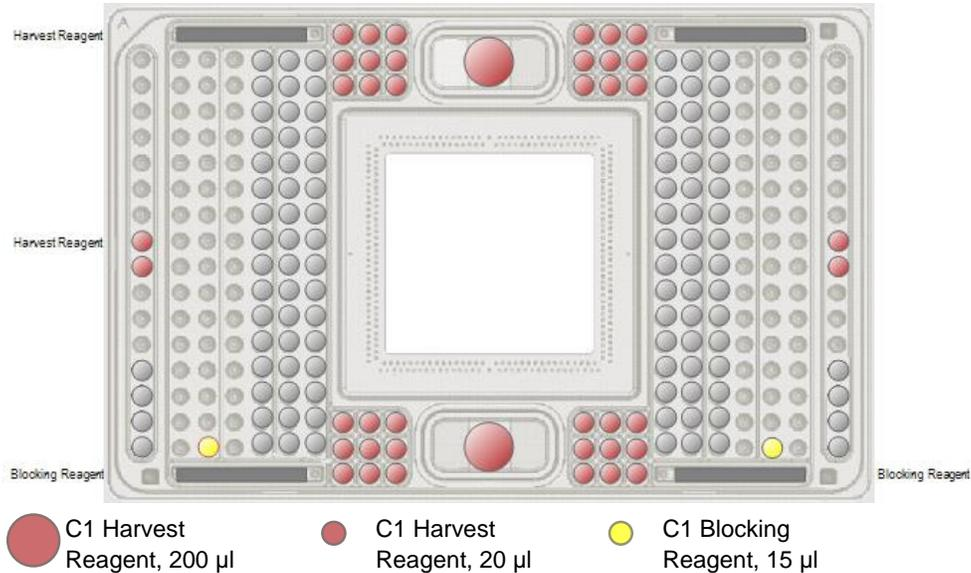

Figure 2. C1 IFC Priming pipetting map.
1. Pipet 200  $\mu$ l of C1 Harvest Reagent into each of the accumulators marked with a large red circle in Figure 2 (2 total). Push down the O-ring with the pipette tip to inject the reagent into each inlet. After injection, swirl the IFC gently to distribute the reagent evenly in each inlet.